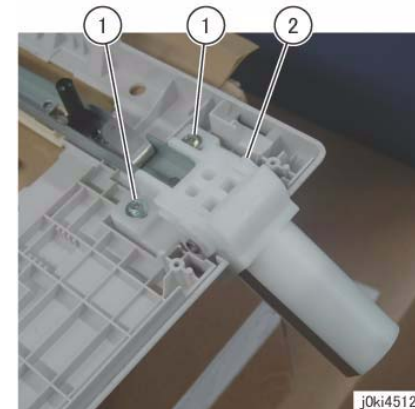

Figure 2 Remove the Left Counter Balance
9. Remove the Left Counter Balance. (Figure 2)